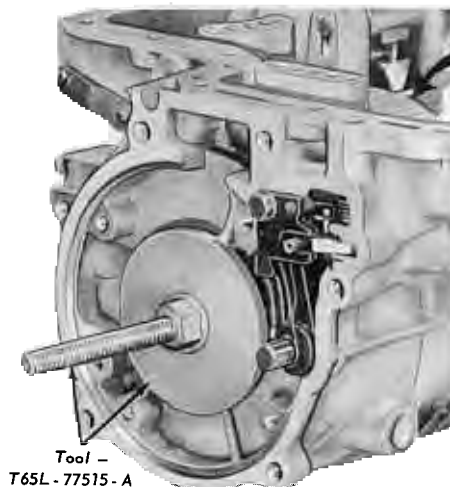

FIG. 30—Compressing Low-Reverse Clutch Springs
20. Compress the reverse clutch piston release spring with tool T65P-77515-A (Fig. 30). Remove the snap ring. Remove the tool and the spring